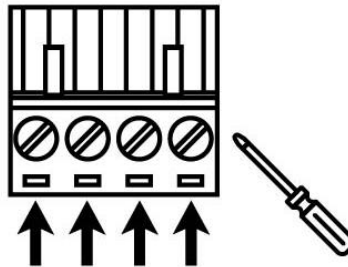

Figure 2.7: Wiring the copper conductors to the terminal block
- Step 2 Tighten the wire-clamp screws to prevent the wires from loosening, as shown below in Figure 2.7.